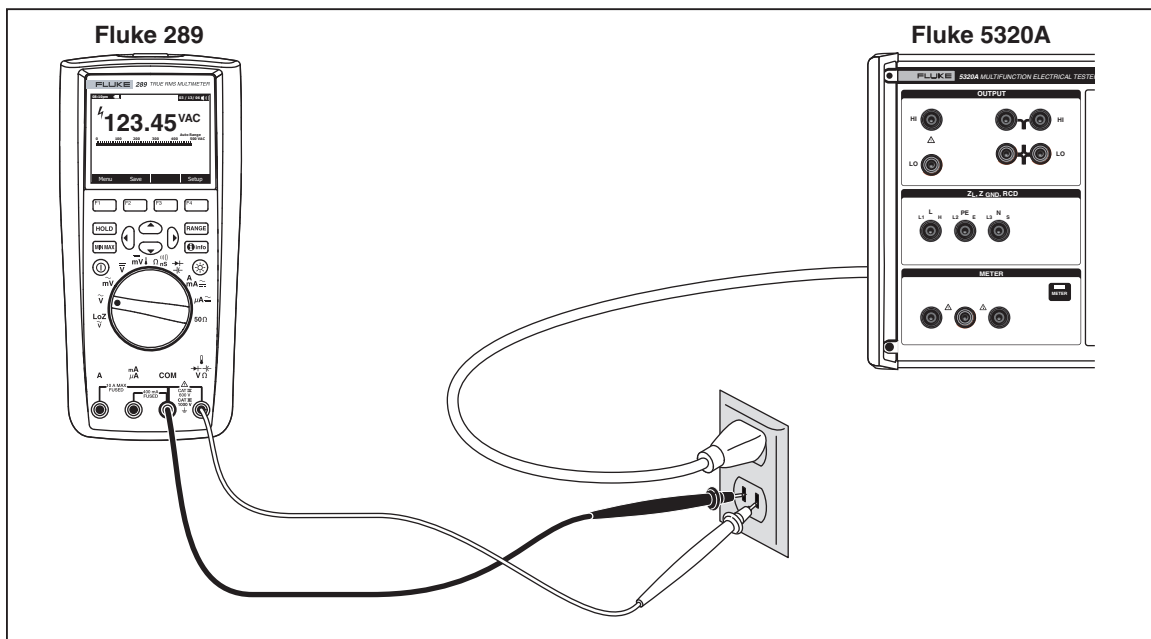

Figure 3-19. RCD Trip Current Line Voltage Calibration Connections
15. Connect the digital multimeter to the same mains outlet to which the Calibrator is connected. See Figure 3-19. Set the digital multimeter to measure ac volts.